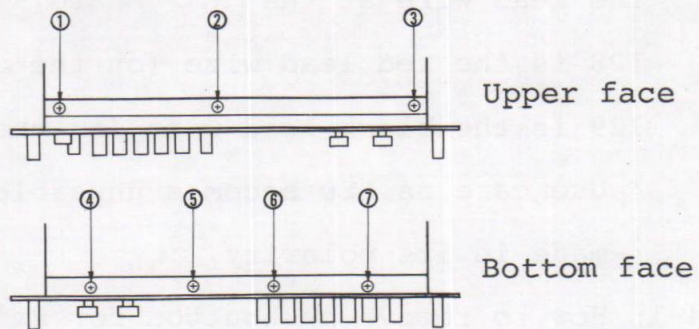

Fig. 2
Remove the screws on the top and under sides of the panel in Fig. 2.
Screws (1) and (2) in Fig. 2 are bind type (M3 x 0.5 x 6)